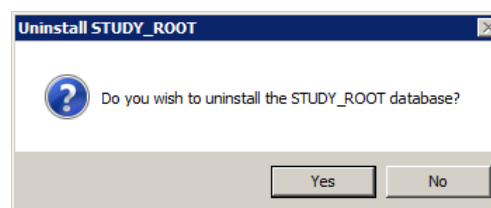

Figure 2-35 Uninstall STUDY_ROOT Database
6. A dialog box will open to confirm the removal of the STUDY_ROOT database. Click Yes to uninstall (Figure 2-35).